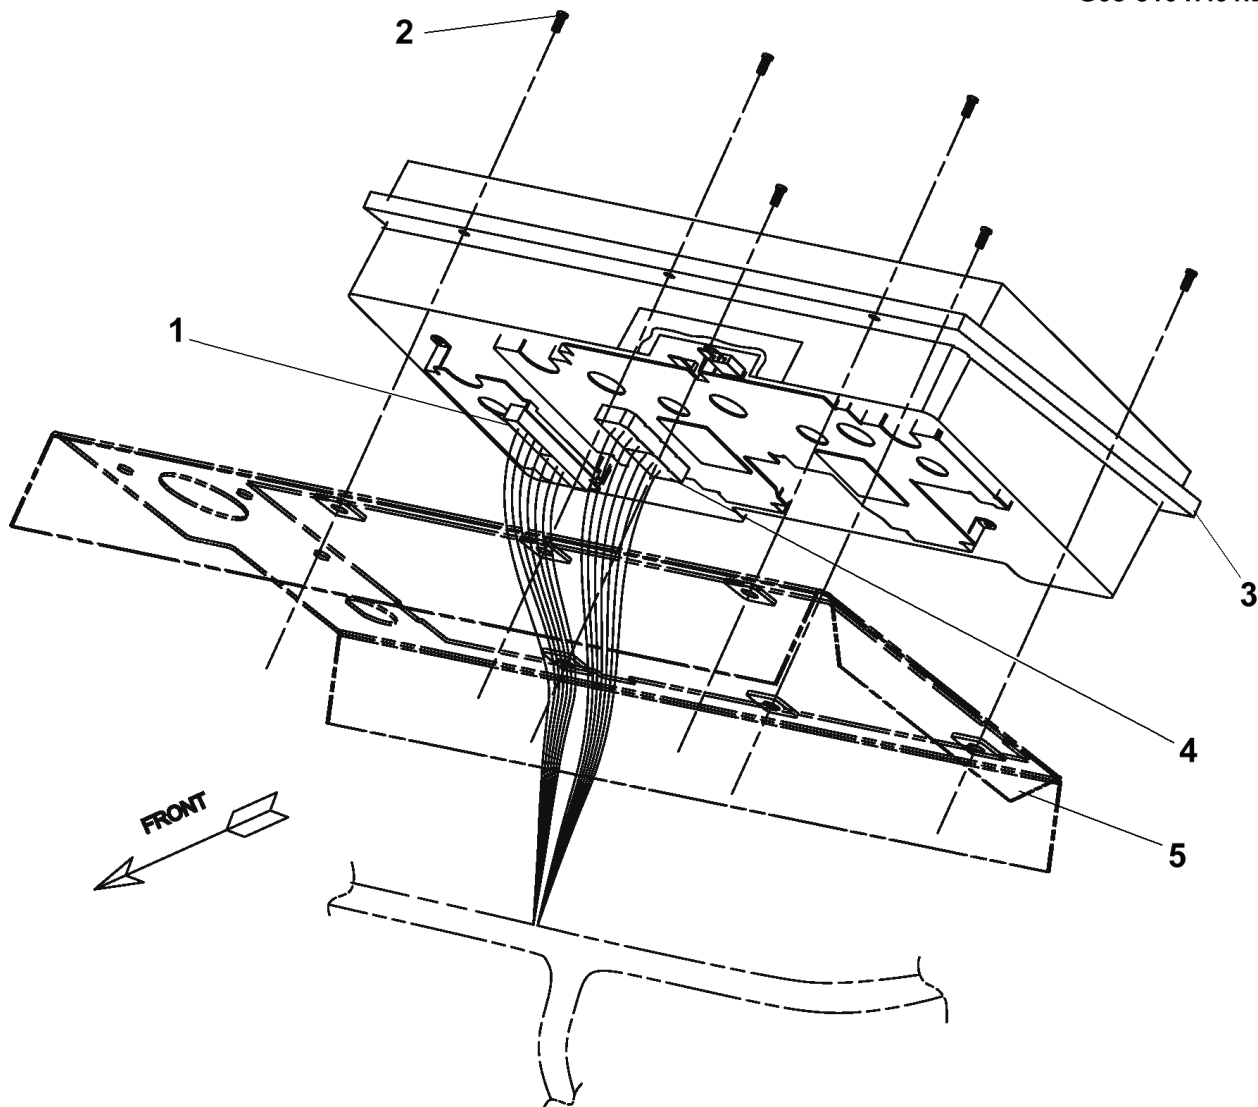

Figure 15 Instrument Cluster Assembly
6. Remove the six (6) cluster mounting screws (Item 1, Figure 15) located on the upper and lower front face of the cluster.
1. WIRING HARNESS NATURAL CONNECTOR (12)
2. SIX (6) CLUSTER MOUNTING SCREWS
4. WIRING HARNESS GREEN CONNECTOR (11)
7. Pull the cluster forward and gently release it from the dash panel (Item 2, Figure 15). If the cluster does not come loose easily, put more pressure and continue to pull gently. Do not attempt to pry the cluster from the dash panel as damage will result.